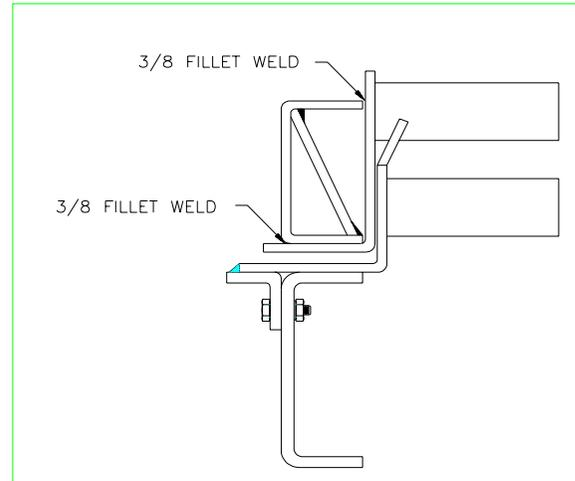

Figure 14: Welding Upper Mount
B. For applications in which the upper mount is welded, it can be welded in place as shown in Figure 14.